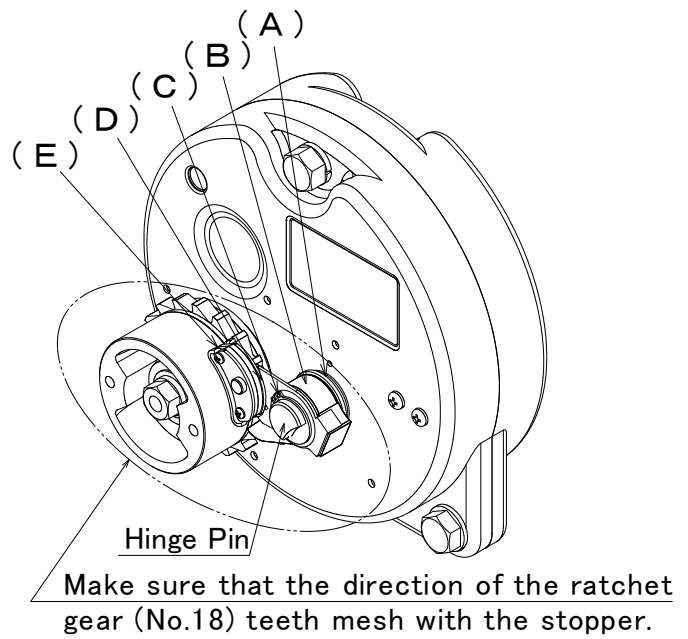

Figure 19 Greasing Point for Type NSIL
- (k) For assembly, please follow the procedure of disassemble in reverse. When assembling, coat the greasing on the triple thread screw of the clutch pinion (No.14) and the contact part of the stopper (No. 23) and the hinge pin. Depending on the type of the stopper, coat the greasing to the movement area of steel ball or to the torsion spring (No.80). For Type NSIL (Noiseless Mechanism), coat the greasing thinly to the movement part of the magnetic plate (No.91) and the outer circumference of the clutch (No.20) where the magnet contact. (See Figure 19 on page 19)